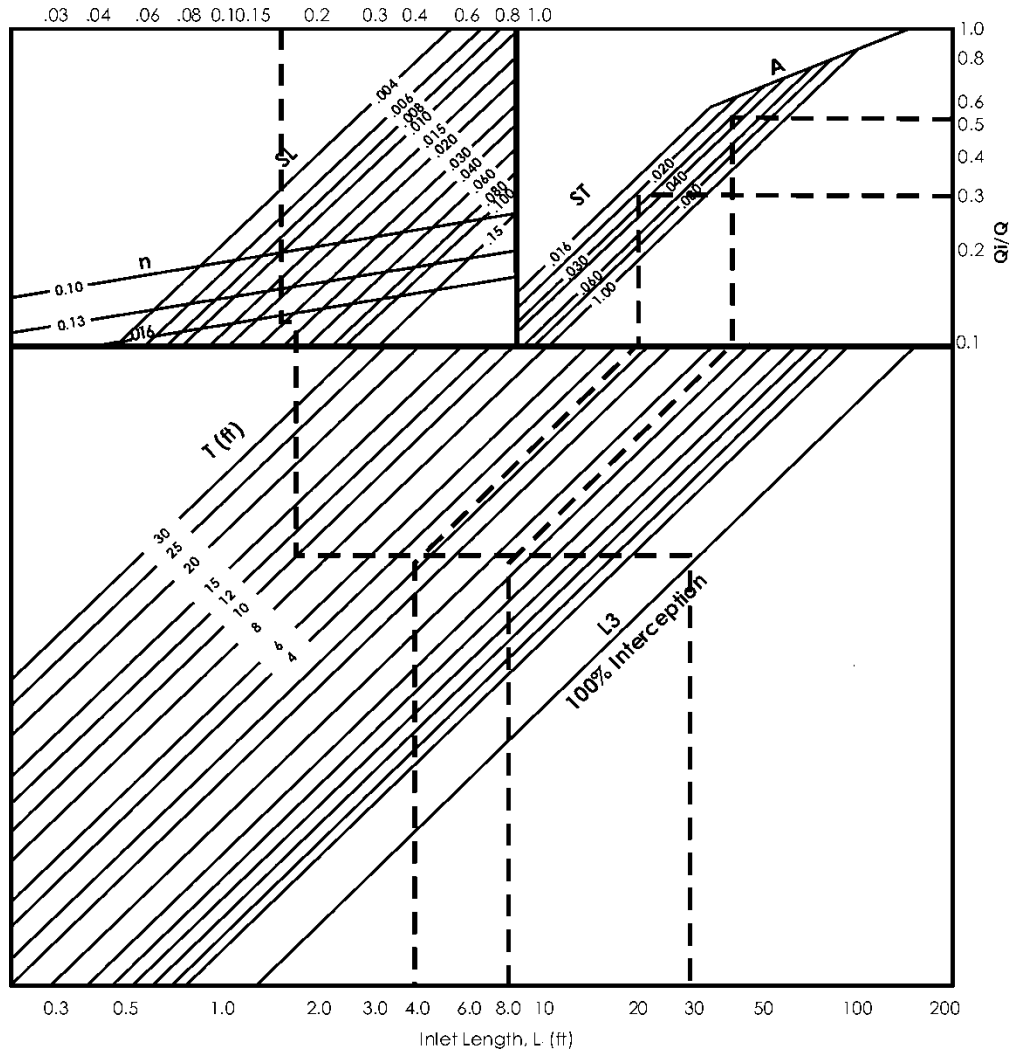
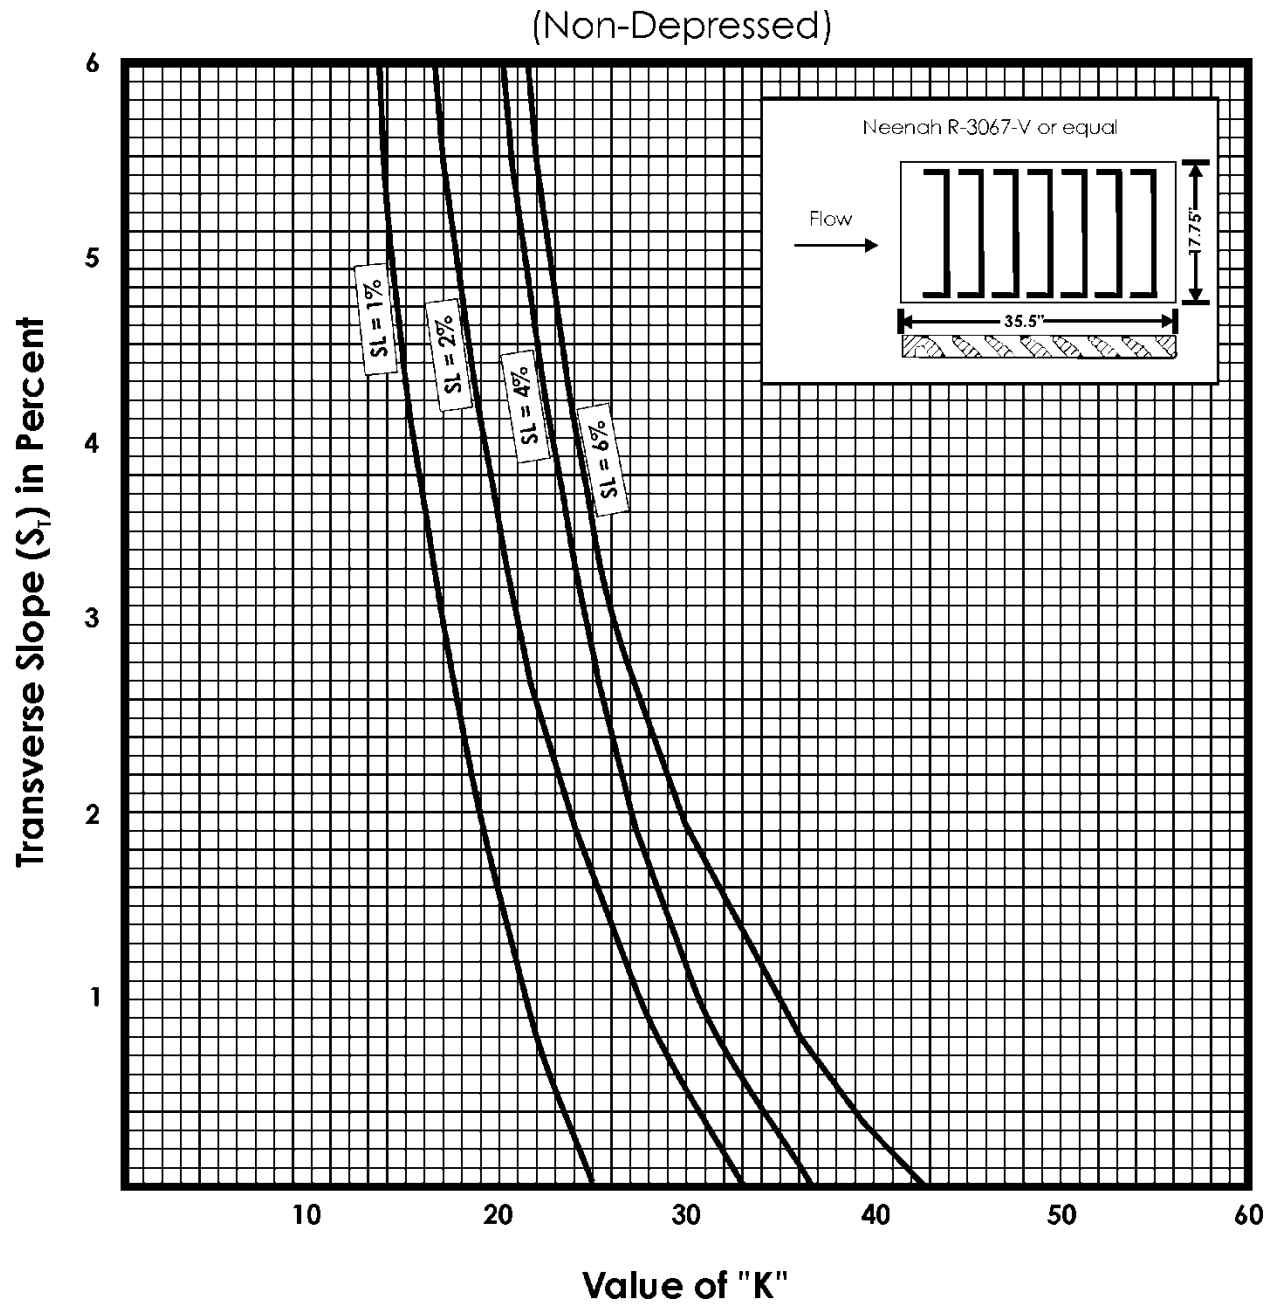

Figure 3: "K" Values for Standard Type SW-501, 502, 503, 504, 505, and 506 Intakes - Vane Grate and Curb Hood
Figure 4: "K" Values for Driveway Grate Intake
- K = Value Used in Equation $Q = Kd$ (See Figures 3 and 5)
Figure 3 is used to determine "K" for a vane grate and includes the curb hood. Figure 4 gives "K" for a driveway condition where no curb hood can be used. The appropriate reduction factor from Table 1 must then be applied to obtain the actual flow intercepted by the intake.
Figure 3 is used to determine "K" for a vane grate and includes the curb hood. Figure 4 gives "K" for a driveway condition where no curb hood can be used. The appropriate reduction factor from Table 3 must then be applied to obtain the actual flow intercepted by the intake.
- 1) Enter Figure 3 with the transverse slope ($S_T = 2.0\%$)